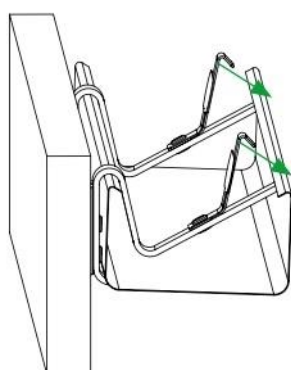

Figure 13
- Bend the front bracket strips so that they adjoin the outer drip of the gutter (**Fig. 13**).